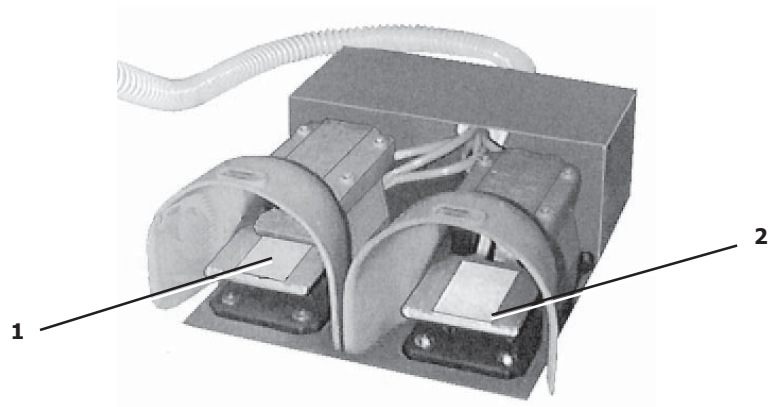

Fig. 5.1
The crimping machine is operated exclusively by means of the relevant foot pedals (fig. 5.1). In the legend below you find a description of the pedals functions.
Command description fig. 5.1:
- Press the left pedal (1, fig. 5.1) locking it in position to move upwards the bracing clamp out of the machine bed and then to move it forward till he grips the profile.
- By closed safety guard activate the bracing clamp through the left pedal (1, fig. 5.1) locking it.